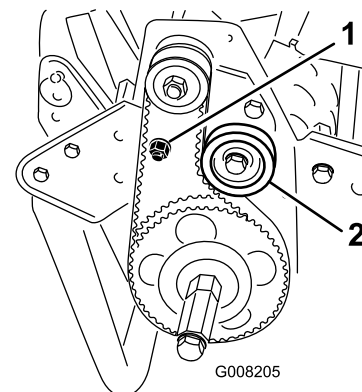

Figure 36
2. Check the tension by pressing the belt at mid span of the pulleys (Figure 36) with 4 to 5 lb of force. The belt should deflect 1/4 inch.
the belt until the desired belt tension is attained (Figure 36).